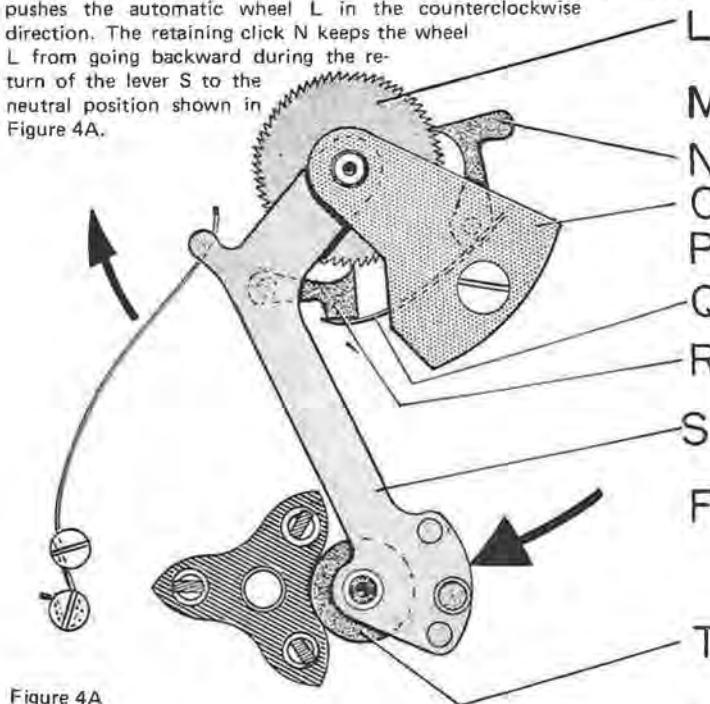

Figure 4A
With the Rollamatic, there are three winding impulses with each complete turn of the winding weight in either direction. Figures 4A and 4B show the principle of winding
In the Rollamatic, the cam has three alternate high and low points. In effect, this star-cam is a three-toothed driving pinion. If Figure 4A is examined, it will be seen that the winding unit is composed of the cam (F) which pivots on the axle (I). Resting against the cam is the pivoted roller (T) which turns in jeweled holes set in the lever (S).
Figures 4A and 4B. These two figures show the winding operation of the Rollamatic. The jewelled roller T is mounted in the lever S and kept at tension against the cam F by the tension spring P. In Figure 4A the cam has caused the roller and lever S to move outward so that the pawl R pushes the automatic wheel L in the counterclockwise direction. The retaining click N keeps the wheel L from going backward during the return of the lever S to the neutral position shown in Figure 4A.